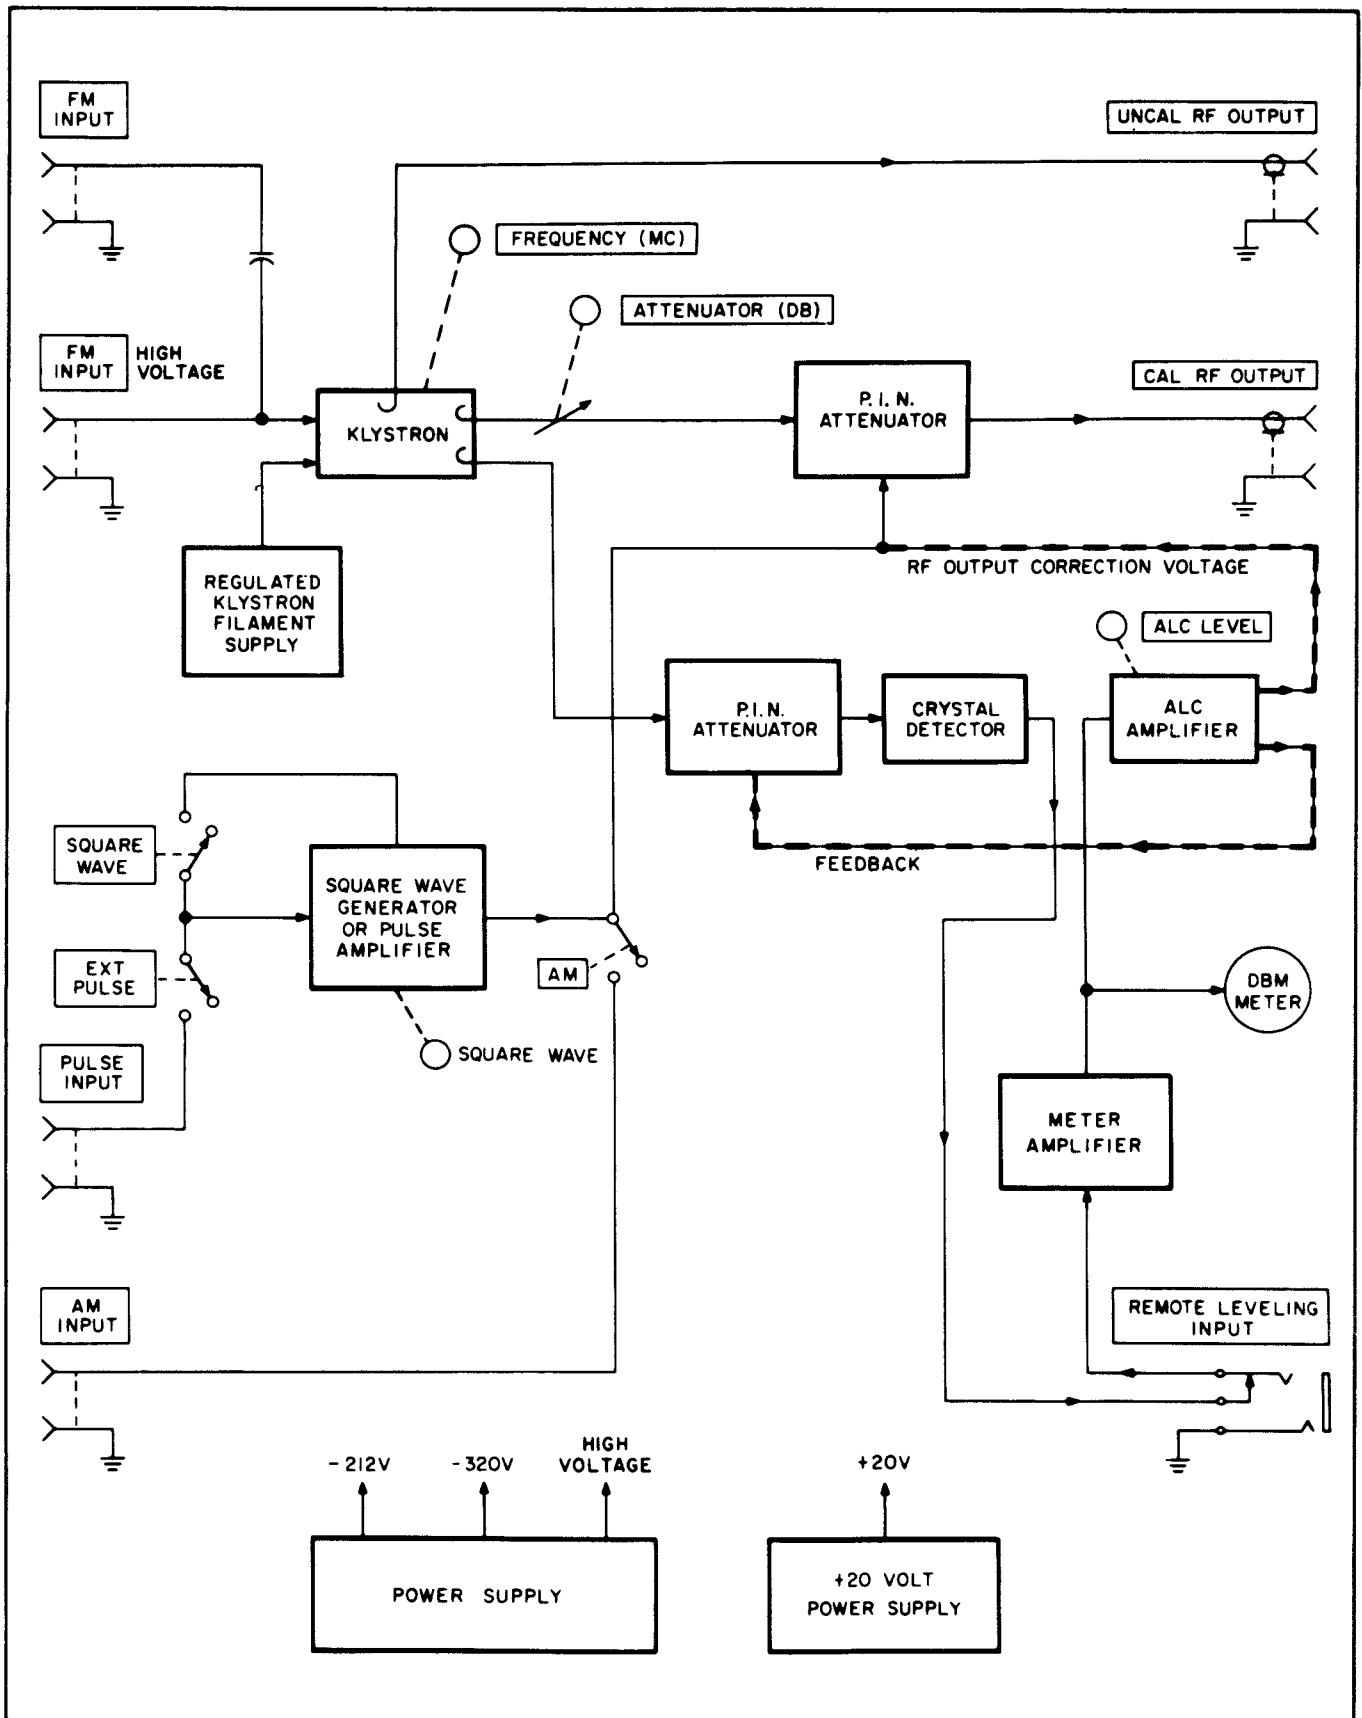

Figure 5-1. Model 8616A Block Diagram
c. ISOLATING TROUBLE TO A SPECIFIC CIRCUIT. Because each mode of operation uses different circuit combinations (see Figure 5-1), trouble can be isolated to a specific circuit by checking the operation of each mode of operation in logical order.
(1) LEVEL OUTPUT CHECK